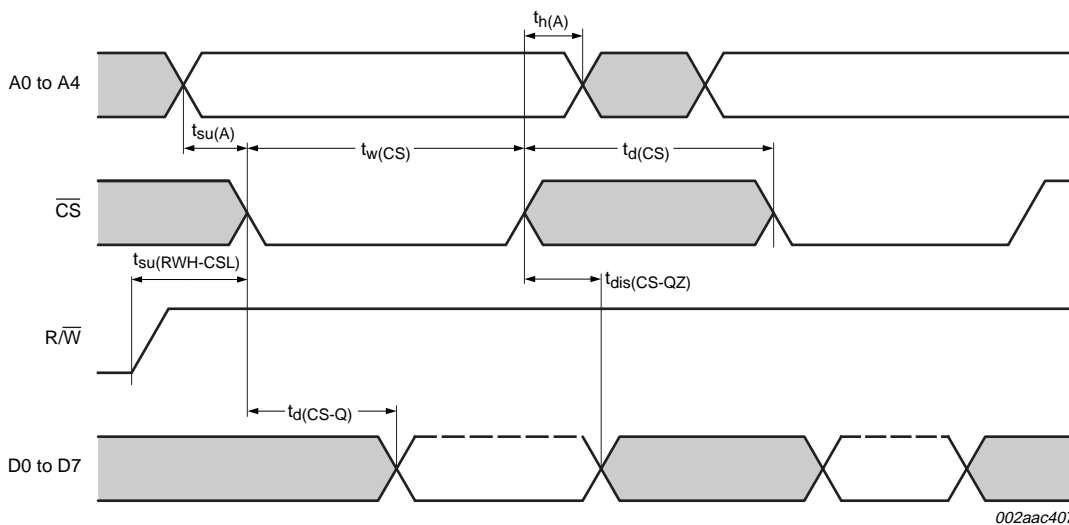

Fig 13. General read timing (68 mode)
(2) \overline{CS} timing during a read cycle. See Figure 13.